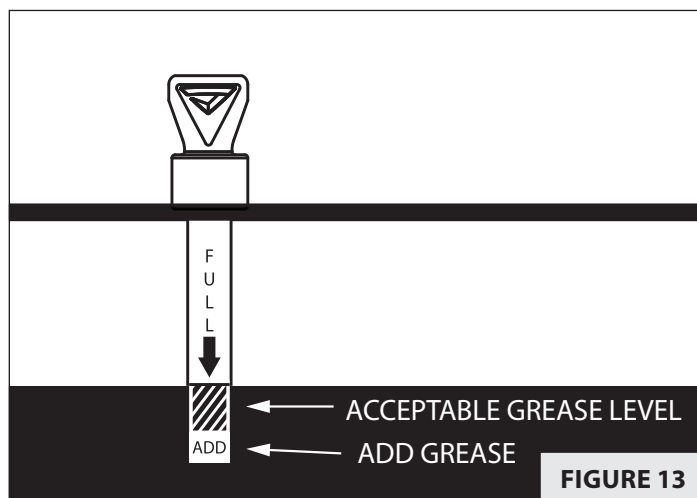

FIGURE 13
4. Reinsert the dipstick all the way into the hole port in the transmission cover plate. **SEE FIGURE 13.**